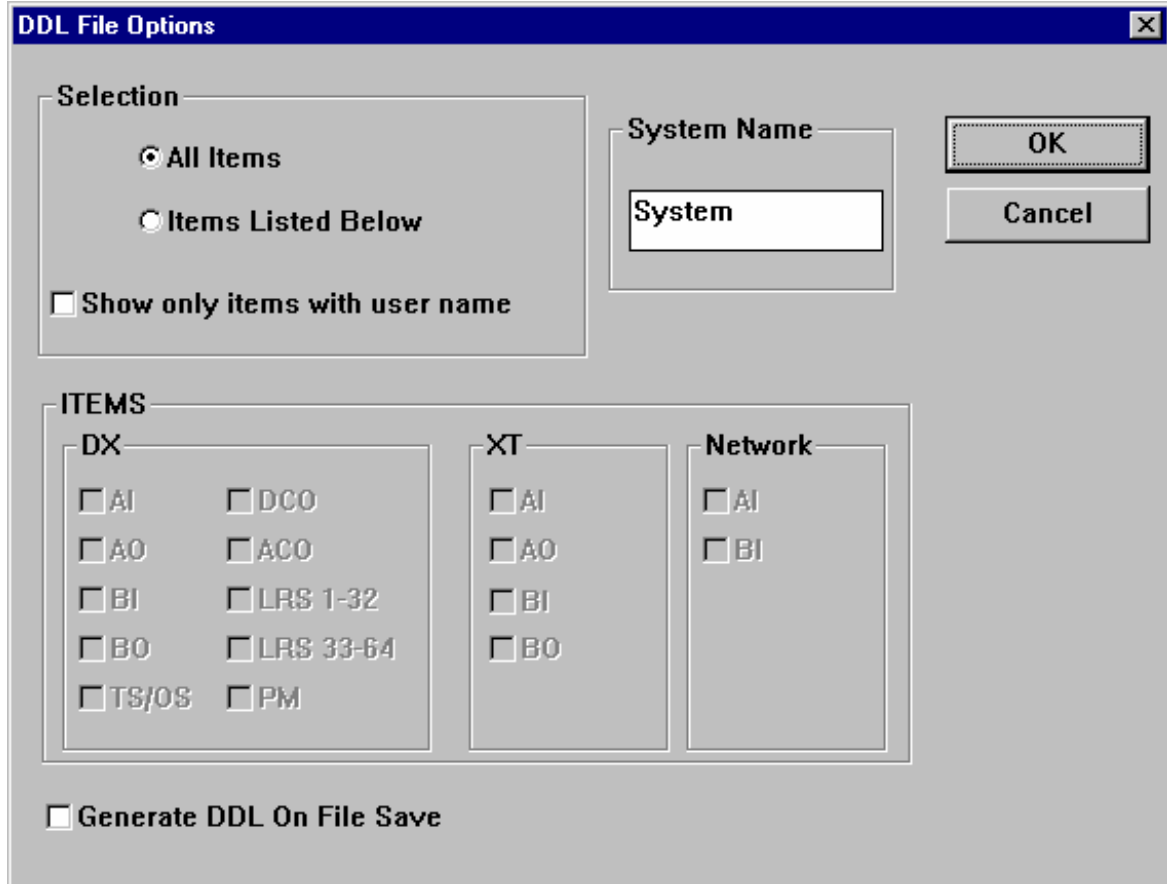

Figure 10-3: DDL File Options Dialog Box
1. On the File menu, click DDL File Options. The DDL File Options dialog box appears (Figure 10-3).